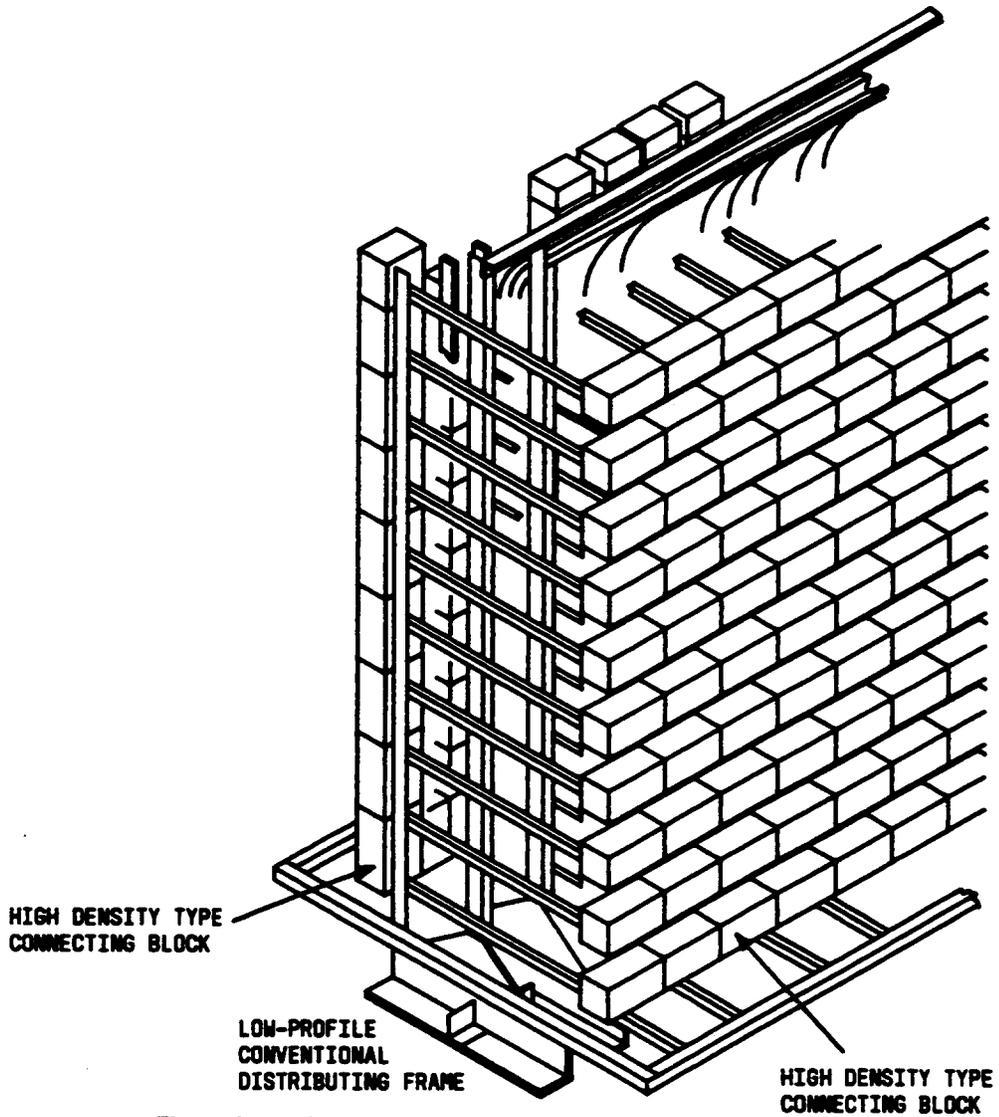

Figure 8—LPCDF (Low Profile Conventional Distributing Frame)
4.06 The double-sided LPCDF (Figure 8) was designed for large capacity CO environments, but it is also used in large premises distribution